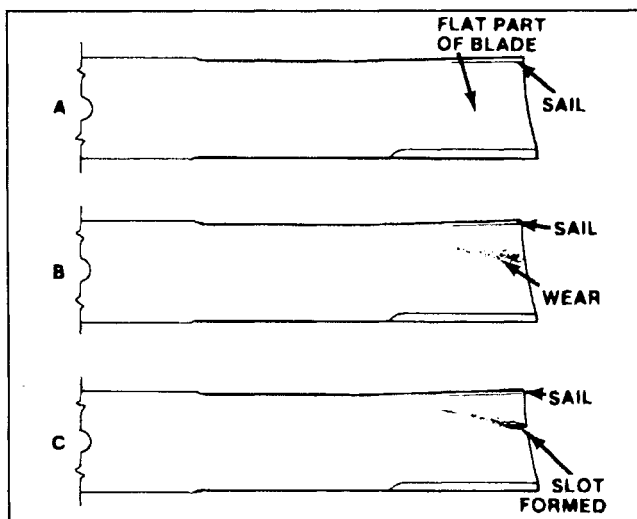

Figure 13
CHECKING SAIL AND SHARPENING CUTTER BLADE (Fig. 13 & 14)
1. Examine cutting ends of the blade carefully, especially where the flat and curved parts of the blade meet (Fig. 13–A). Since sand and abrasive material can wear away the metal that connects the flat and curved parts of the blade, check the blade before using the mower. If wear is noticed (Fig. 13–B), replace the blade.
If blade is allowed to wear, a slot will form between the sail and flat part of the blade (Fig. 13–C). Eventually a piece of the blade may break off and be thrown from under the housing, possibly resulting in serious injury to yourself or bystander.